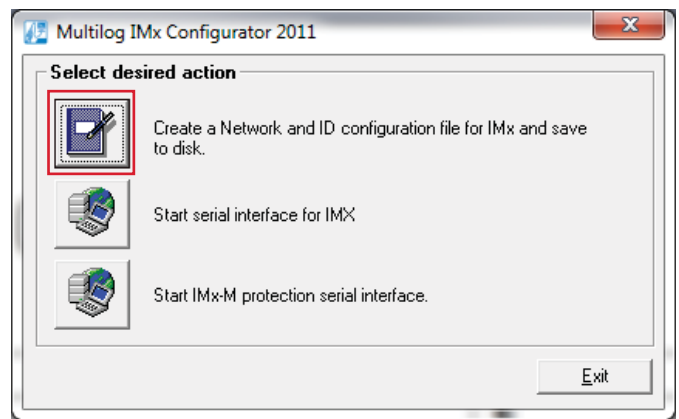

Fig. 6. Create a Network and ID configuration file for IMx and save to disk.
- Click on **Create a Network and ID configuration file for IMx and save to disk** (→ fig. 6).